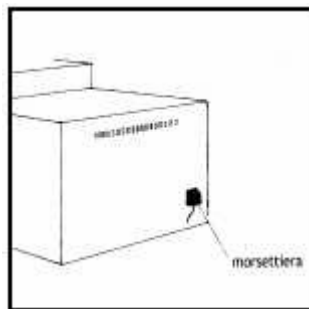
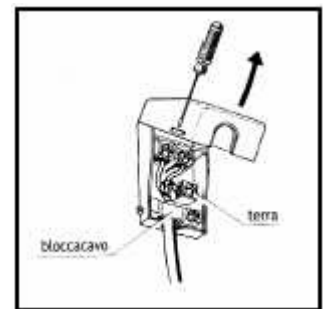

Fig. 14
Fig. 15
- AX100MTPC2X, ASX90MTPE2X and ASX90MTPE2X. must be powered by a single-phase 240 V ~ 50 Hz electrical connection Fig. 14 and Fig. 15.